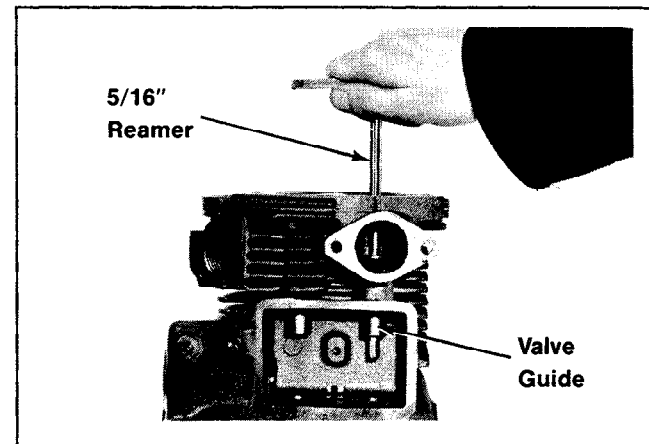

Figure 11-7. Reaming Valve Guide.
3. Valve guides are often slightly compressed during insertion. Use a piloted reamer and then a finishing reamer to resize the guide bore to .3125" for K161, K181, K241, K301, K321, and K341. Refer to Figure 11-7.